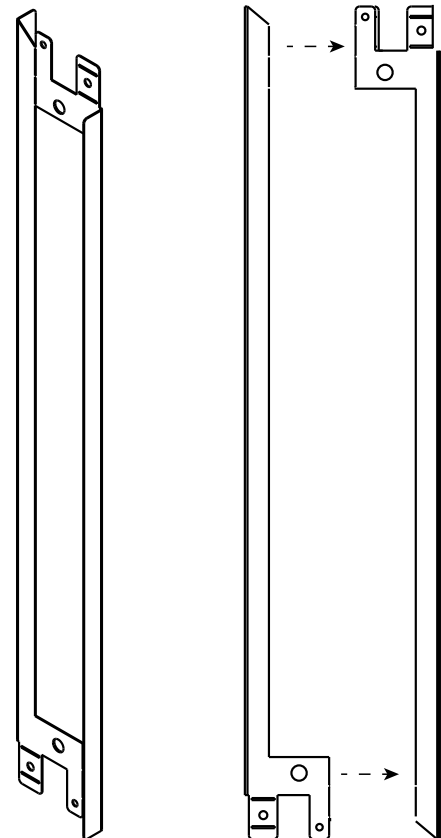

Figure 1 Side Refractory Bracket
- (1) Side Refractory Bracket Assembly (See Figure 1)
*Note: Assembly breaks into two pieces as noted in Figure 1.